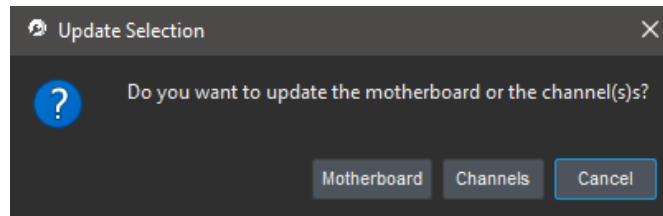

Figure 4.7: Doric Maintenance Tool Update Selection
7. A window ask you to choose between **Motherboard** or **Channels** to update (if you need to update both, select one of them and repeat the process after the end of the first update) (Fig. 4.7).